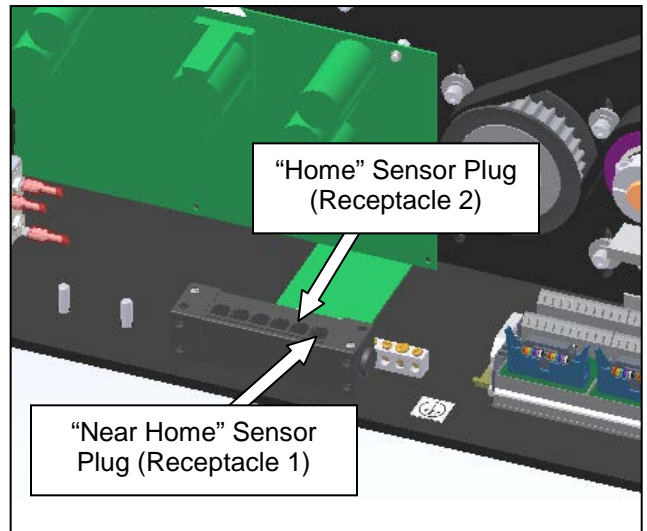

Figure 3-357. Jaw Position Sensor Plugs
2. Locate the 6-position junction box. Ensure the plugs are fully inserted into the ports. The “near home” sensor will be in the receptacle numbered ‘1’ and the “home” sensor will be in receptacle ‘2’ (Figure 3-357).